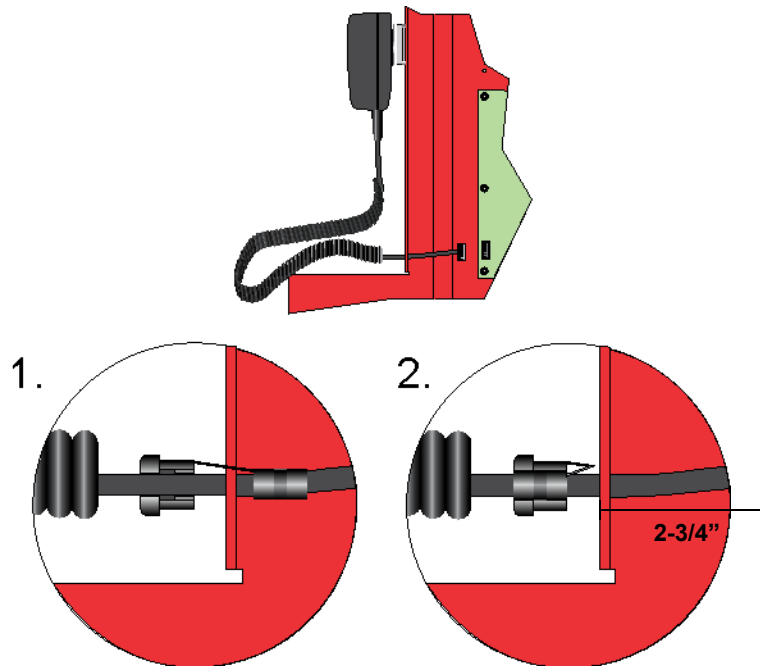

Figure 4-10 Installing Strain Relief Clip
3. Attach strain relief clip to microphone cord. The strain relief clip should have about 2-3/4" of micro phone cord through it. See Figure 4-10.